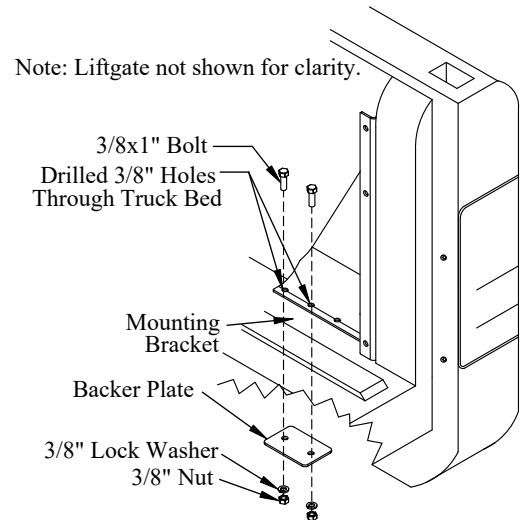

Figure 11: Mounting bracket and backer plates.
7. **Drill** two (2) 3/8" holes into the truck bed floor using the holes in the bracket as a guide (Figure 11).
8. **Fasten** each bracket to the truck box using the supplied (Figure 11):